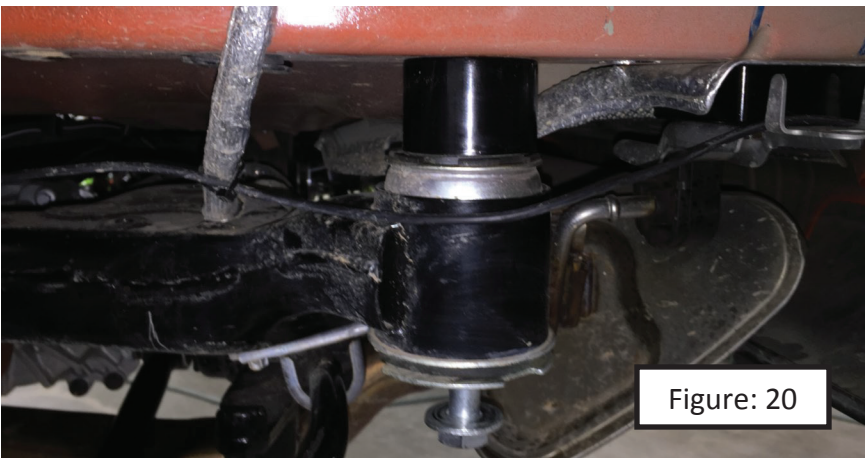

Figure: 18
41. There is one last retainer located on the front side of the fender liner just on the inside of the wheel opening (Figure: 18).